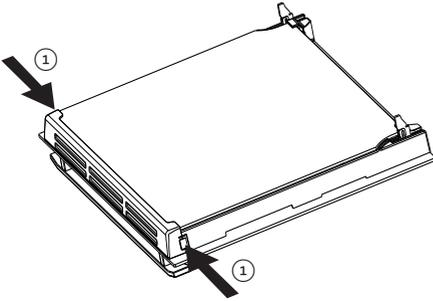

Fig. 7.20
- Touch the glass retainer tabs in on both sides of the door and remove the glass retainer (fig. 7.20, 7.21).